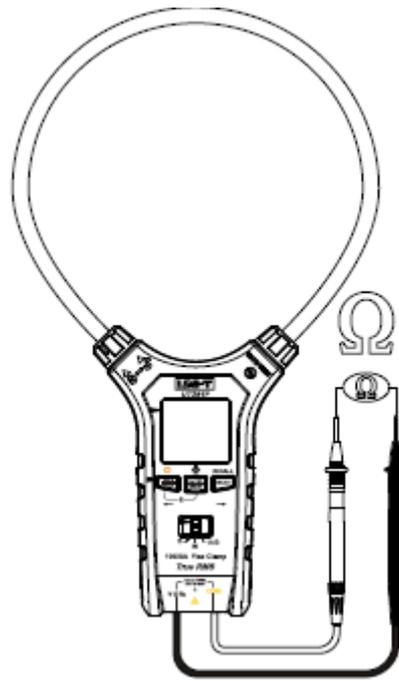

Figure 5
3. Resistance measurement (Figure 5)